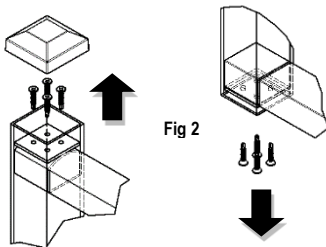

Fig 2
1. Remove caps from both gate sides by lightly tapping with a rubber mallet. Remove screws inside top and bottom of each gate side (Fig 2).